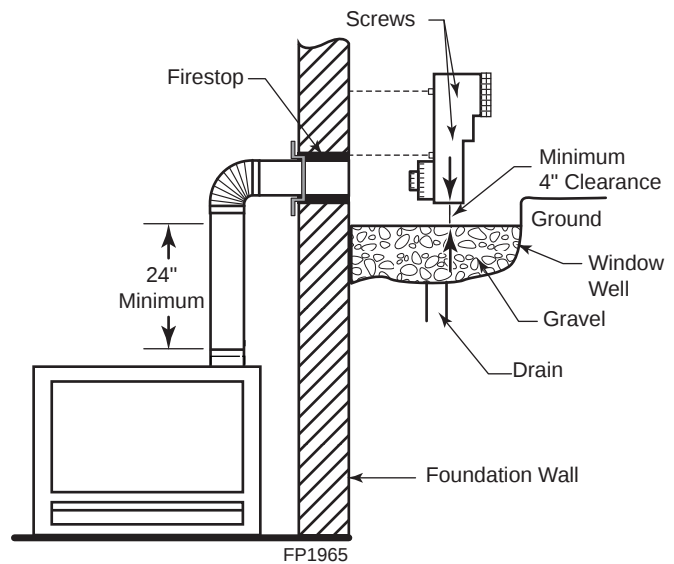

Figure 32 -
2. Remove soil to a depth of approximately 16" below base of snorkel. Install drain pipe. Install window well (not supplied). Refill hole with 12" of coarse gravel leaving a clearance of approximately 4" below snorkel. *Figure 32*
7. Level the soil so as to maintain a 4" clearance below snorkel. *Figure 32*
1. Determine the route your vertical venting will take. If ceiling joist, roof rafters or other framing will obstruct the venting system, consider an offset. Refer to *Figure 32* to avoid cutting load bearing members.